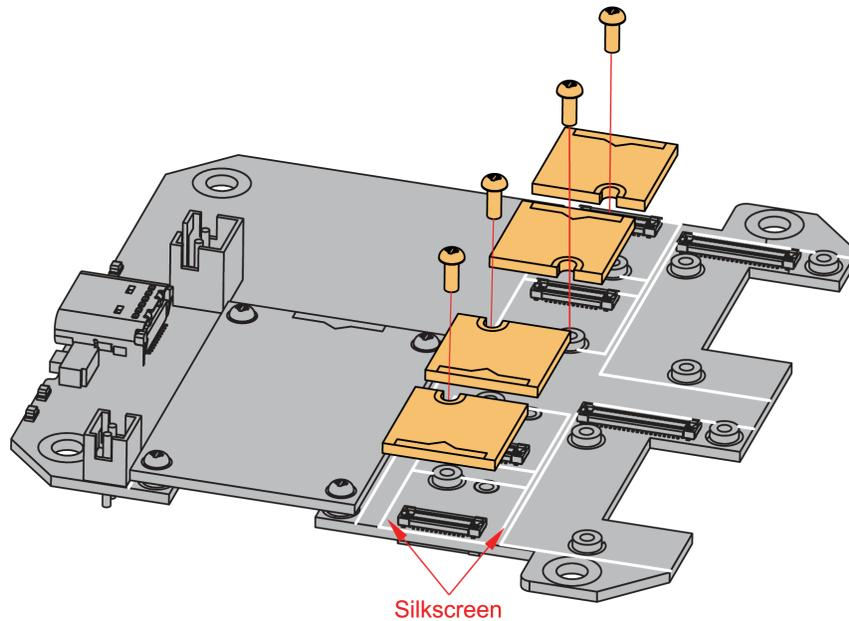

Figure 16: WisBlock Sensor silkscreen on the RAK19011 Base Board
A WisBlock Sensor module is designed to be installed on the sensor slot of the RAK19011 WisBlock Dual IO Base Board with Power Slot. There are six (6) available sensor slots in the RAK19011 WisBlock Dual IO Base Board with Power Slot. As shown in **Figure 16**, the location of the slots is properly marked by silkscreen. Follow carefully the procedure of the section, attaching a WisConnector, to attach a WisBlock Sensor module. Once attached, fix the module with an M1.2 x 3 mm screw.